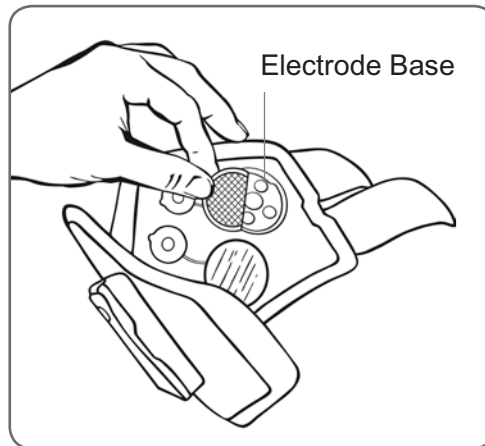

Figure 50: Removing the used L300 hydrogel electrodes.
2. Gently pull the used L300 hydrogel electrodes from the hydrogel electrode bases. Be careful not to detach the electrode bases from the L300 FS Cuff. See Figure 50.